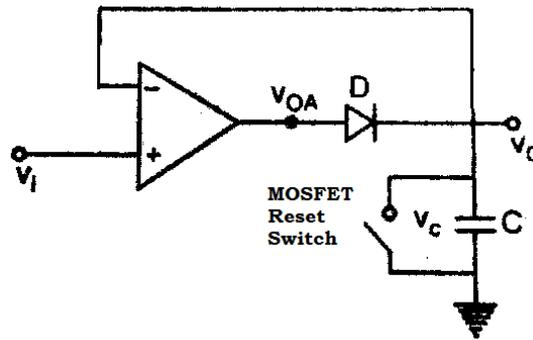

Fig. 3.50 Positive peak detector
- Consider the circuit of Fig.3.50. When input v_i exceeds v_c , the voltage across the capacitor, the diode D is forward biased and the circuit becomes a voltage follower.